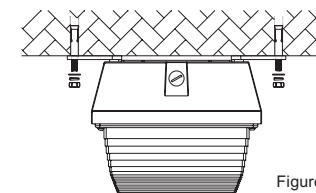

Figure 4
4. Set the surface-mounted plates to the expansion screw and screw up the removed nut and washer tightly. (Figure 4)